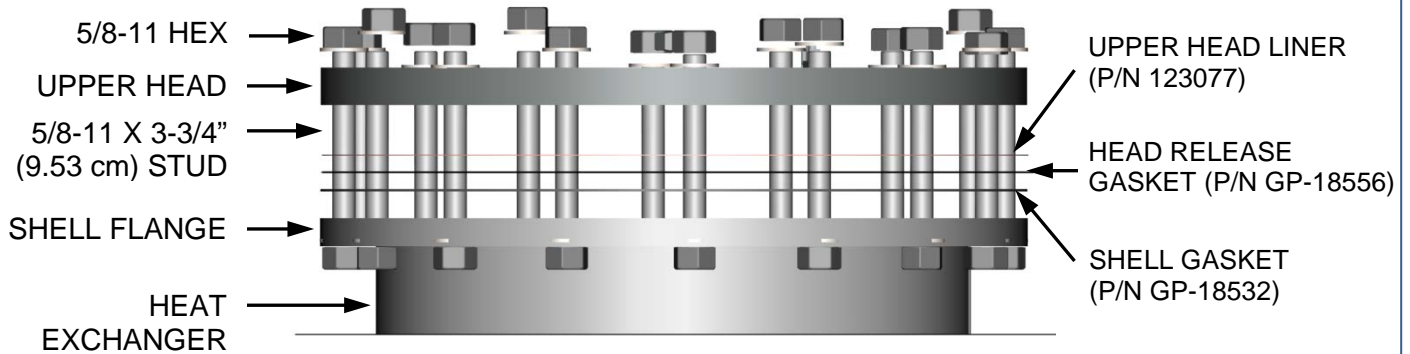

Figure 6-8. Heat Exchanger Head Configuration
The Heat Exchanger heating surface is inspected by removing the top head (see Figure 6-8). Prior to performing the inspection, ensure that the following replacement parts are available:
4. Referring to see Figure 6-8, below, remove the 5/8-11 hex nuts and washers from the upper head, and then remove the upper head, upper head-liner and gaskets.